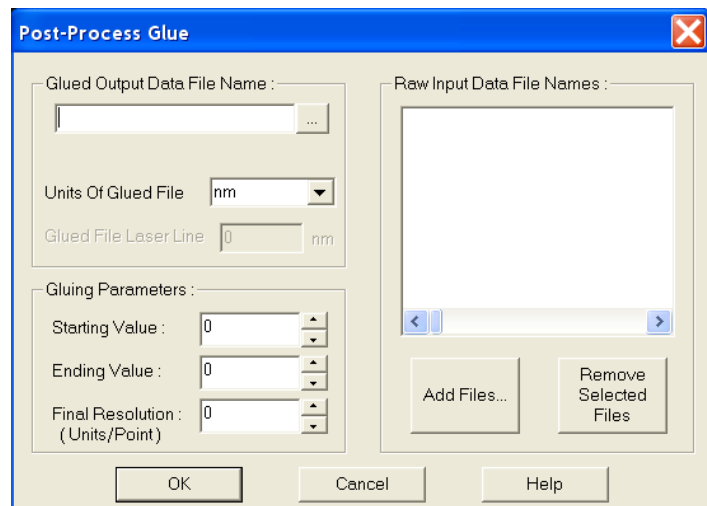

Figure 135. Post-Process Glue dialog
2. From the **Process** menu select **Glue**. This will open the **Post-Process Glue** dialog (Figure 135). *For more information, see the online Help for this dialog.*